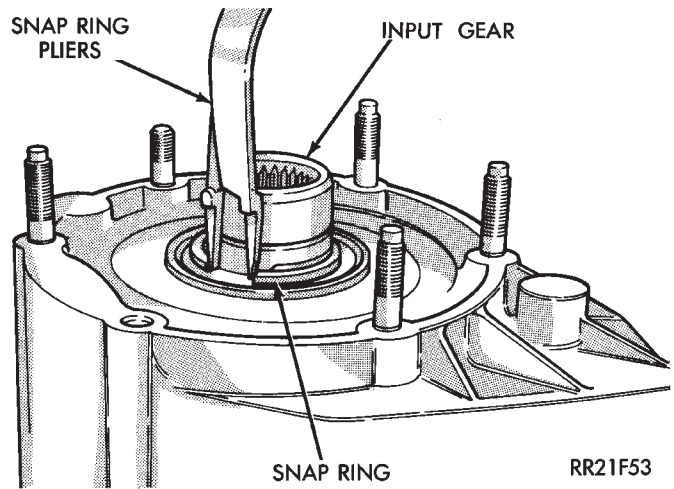
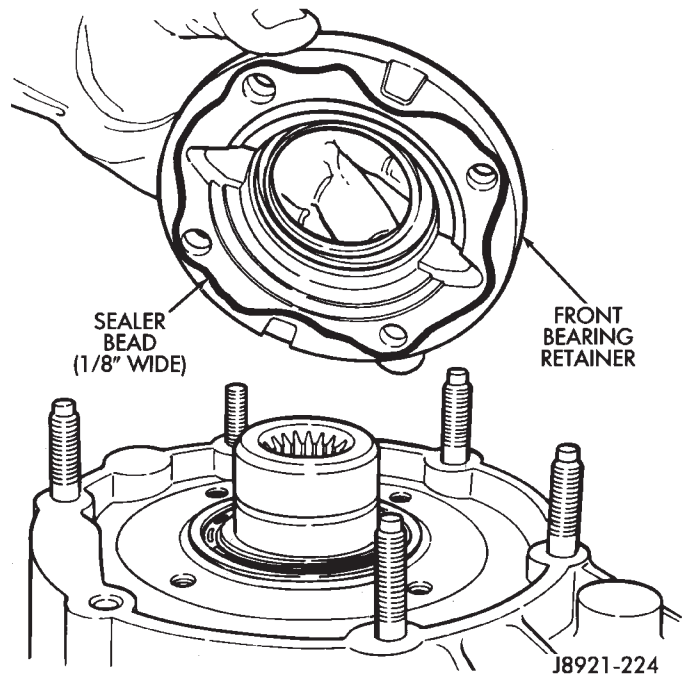

Fig. 37 Installing Input Gear Snap Ring
Fig. 38 Applying Sealer To Front Bearing Retainer
- (17) Install input gear snap ring (Fig. 37).
- (18) Install new oil seal in front bearing retainer.
- (19) Apply 3 mm (1/8 in.) wide bead of Mopar Gasket Maker, silicone adhesive/sealer, or Loctite 518 to front bearing retainer seal surface (Fig. 38).